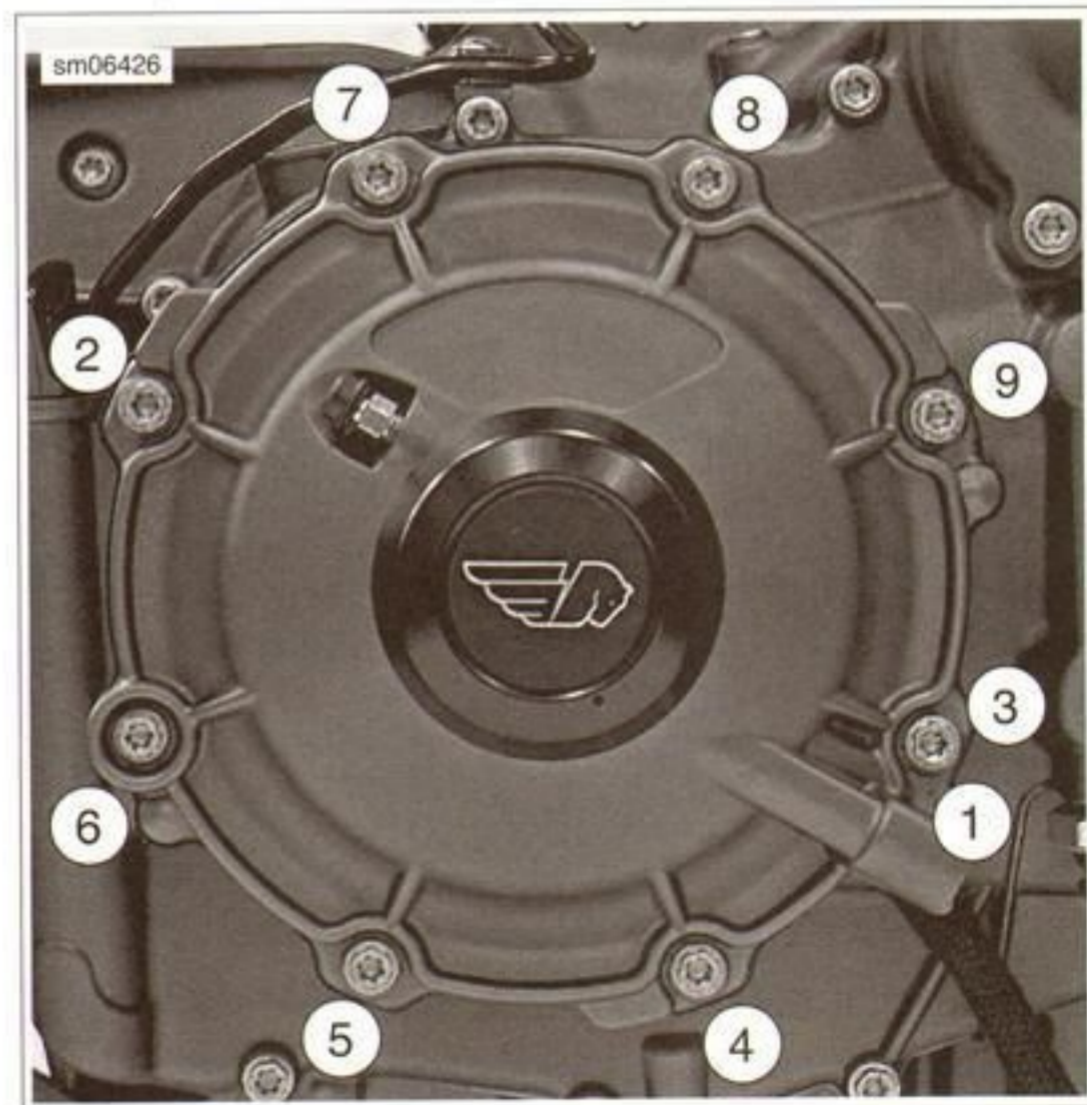

Figure 6-20. Secondary Actuator Cover Torque Sequence
8. See Figure 6-20. Tighten the secondary clutch actuator cover fasteners in sequence to 10 Nm (89 in-lbs).